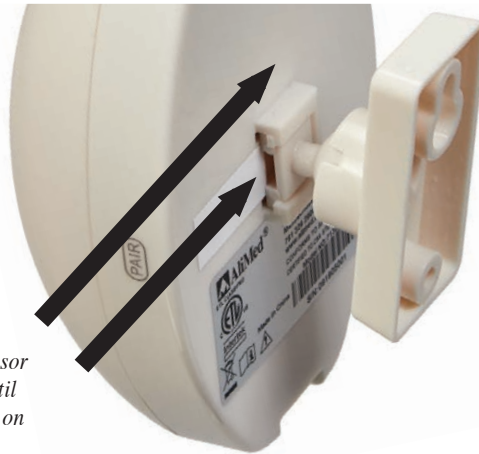

Figure 5
3. Slide Motion Sensor from the left until secured in place on the mounted bracket (Fig. 5).